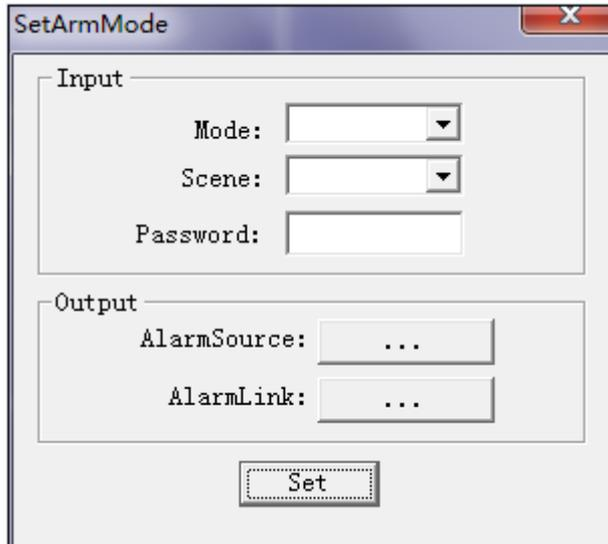

Figure 2- 7
Step 2. Click Control&Search. See Figure 2- 7.